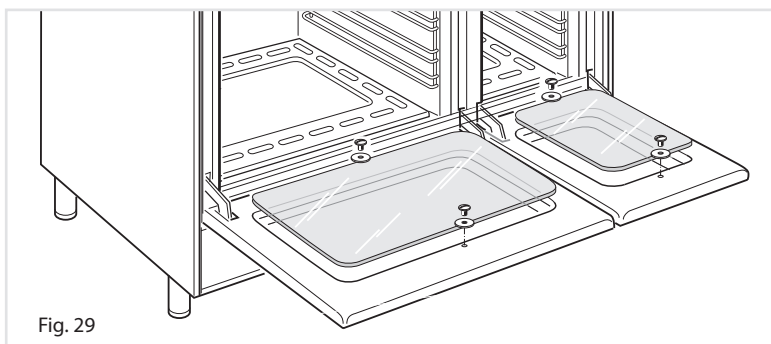

Fig. 29
- The inner glass door panel can easily be removed for cleaning by unscrewing the fixing screws (fig. 29).